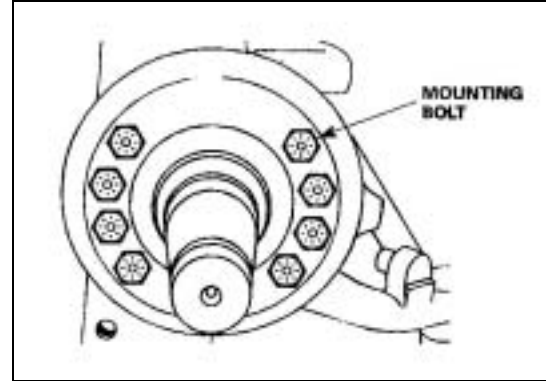

Figure 9
5. Remove the support-to-axle mounting bolts. **Figure 9.**